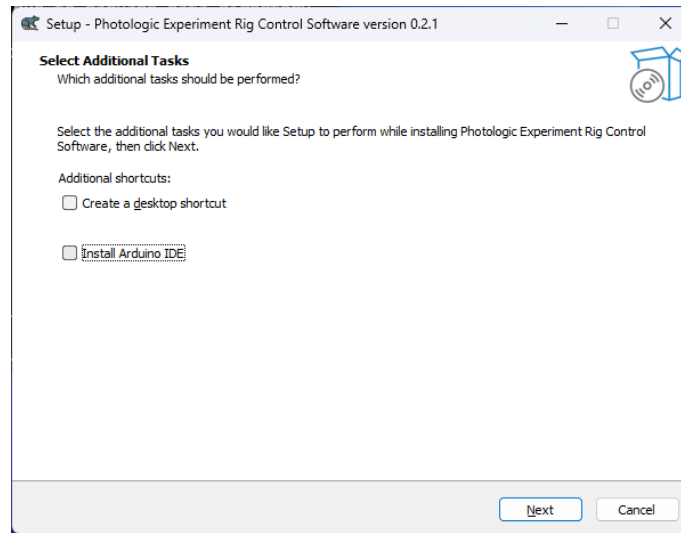

Figure 3: Installing only the Control Software.
2. **Open the Installer** - To begin the installation of the program, open the '.exe' file just downloaded. It will look like the image shown in Figures 3 and 4. If you see a message saying 'Windows Protected Your PC', press the text that says 'More Info', then click the 'Run Anyway' button.